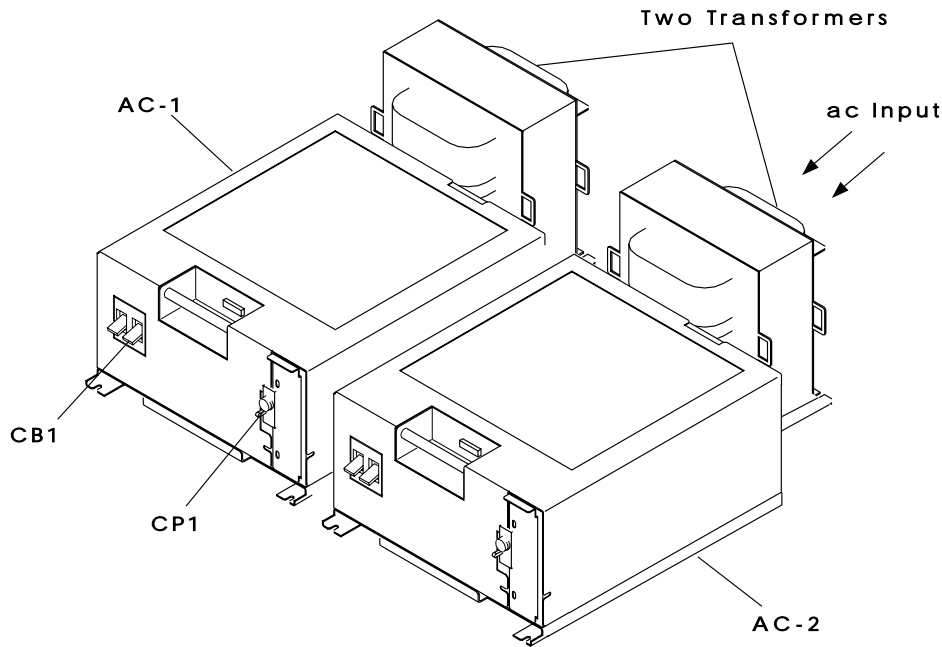

Figure B-12. 3746-900 Power Area with 2 AC (AC-2 is Optional)
- Step 2. \_\_\_ **Switch** the main circuit breaker CB1 **OFF** at the 3746-900 primary power box. (See Figure B-12 on page B-9 or Figure B-13 on page B-9, if the optional power feature is installed)